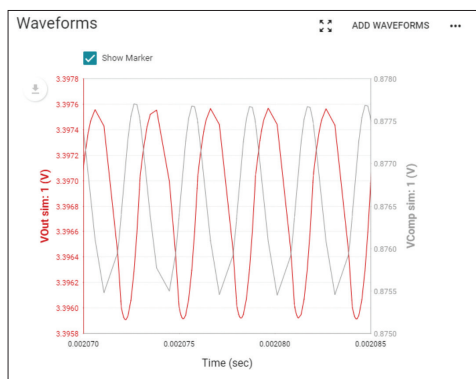

Figure 15.
7. After the end of simulation, Click on  $V_{comp}$  voltage probe to plot the control voltage. The plot appears as shown in **Figure 15**.